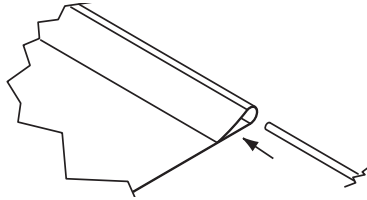

Figure 6
- ① Move frame assembly out of the way, unroll viewing surface and place on smooth/clean surface. (Orient viewing surface so that folded side of hem is visible.)
- ② Insert plastic tubing inside pocket formed by hem on all 4 edges of viewing surface (see Fig. 6).